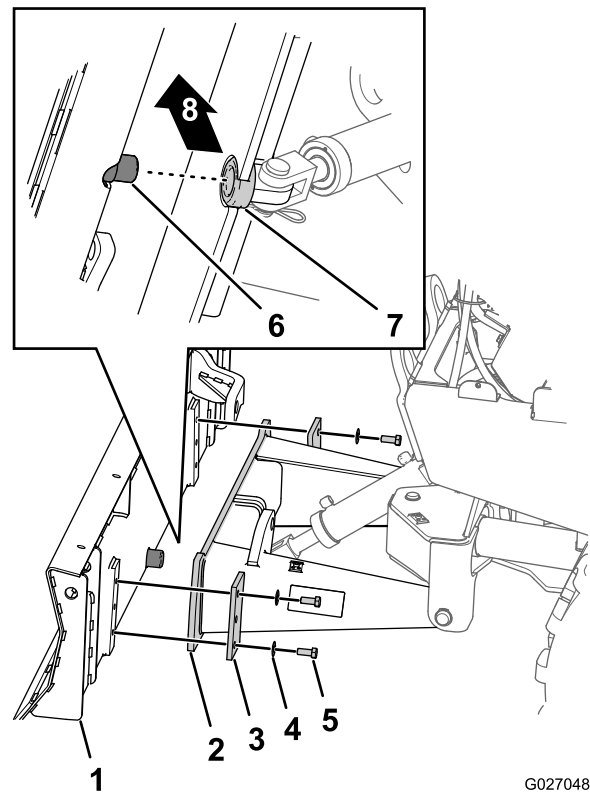

Figure 33
1. Use lifting equipment to lift the backfill blade and align it to the mounting plate of the lift-arm assembly (Figure 33).